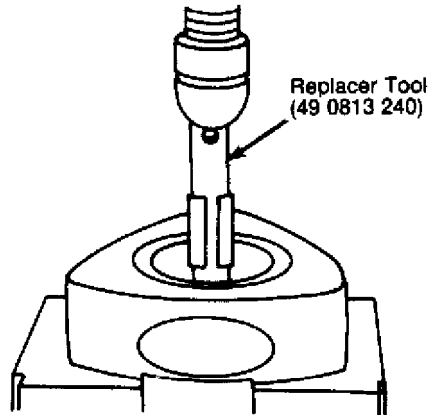

Fig. 13: Pressing Rotor Bearing from Rotor
2) Place rotor on support with internal gear facing upward. Place a new rotor bearing on rotor with bearing lug in line with slot in rotor bore. Press new bearing (using tool with adapter) until bearing is flush with rotor boss. See Fig. 13.